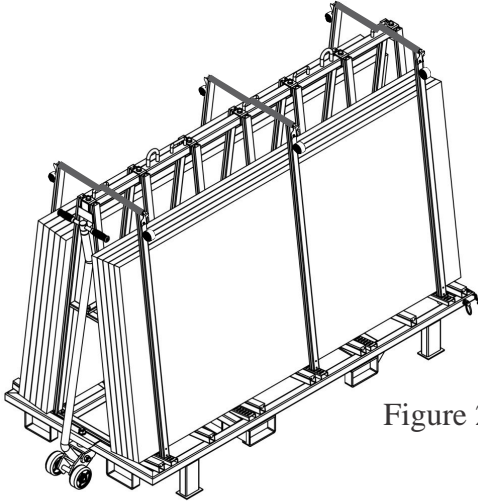

Figure 2.3
Step 2: Place the stone slabs (figure 2.3).
- Install ratchet securing bars (figure 2.3) by setting the bottom end to the groove on the base frame, then hook the strap end on the top of the A-frame and tighten the ratchet. (Refer to appendix p.10.)